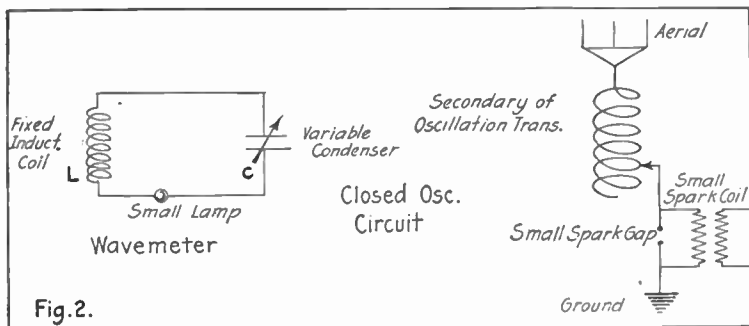

Fig. 2. Tuning the open oscillating circuit of a transmitter
*Open Oscillating Circuit.*—To tune the open oscillating circuit to the wavelength of closed circuit, excite this circuit with a small induction coil or transformer as shown in Fig. 2. Make sure that the spark length used is very small, otherwise the wave emitted will be too broad to read correctly on the wavemeter. The wavelength will be found by noting the point on the condenser scale, when the lamp lights to incandescence, as was the case in finding the wavelength of the closed circuit.